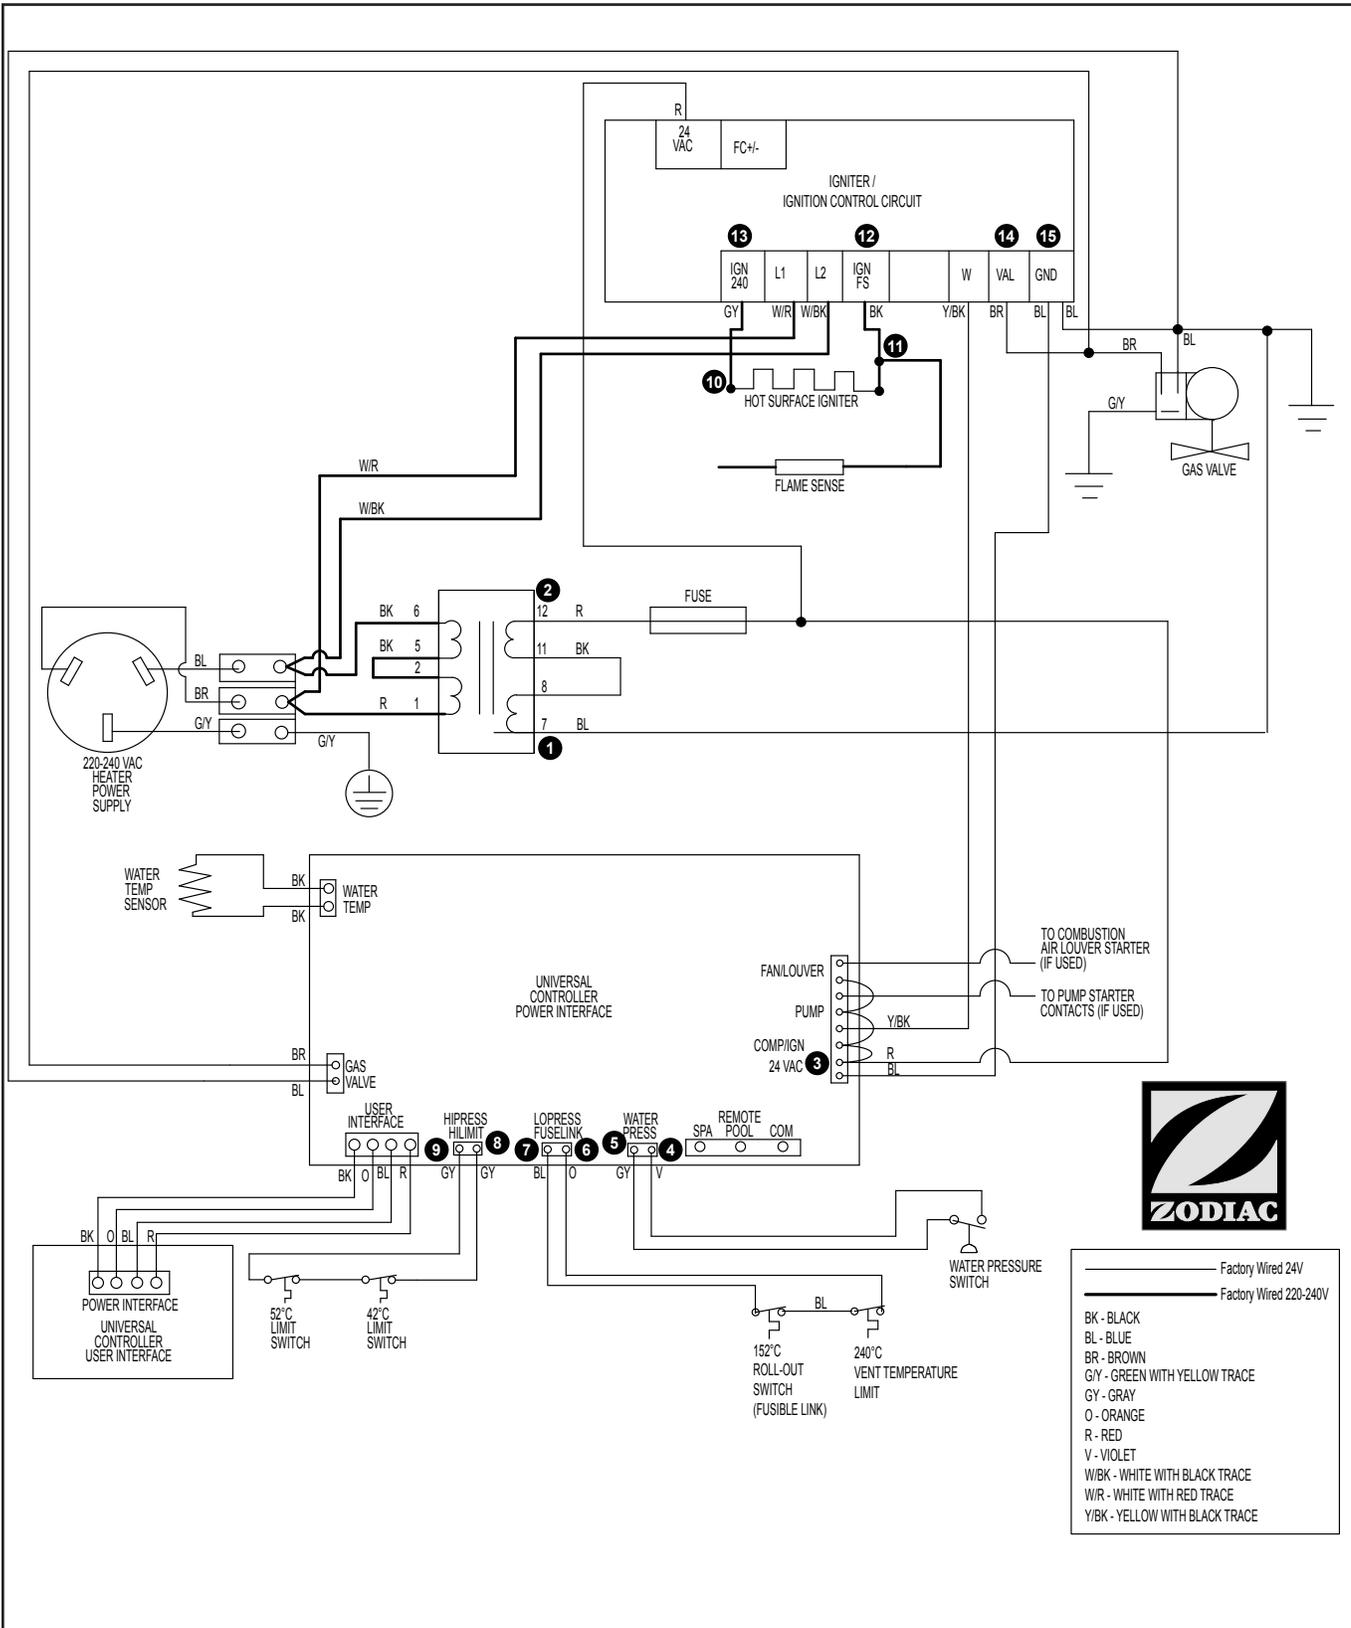

Figure 26. Test Point Identification Diagram
These procedures require a Volt-Ohm meter with a minimum 0-250VAC voltage range, and 1-1000 Ohm resistance range. Figure 26 shows the power
Troubleshooting is done by probing for voltage between the common and various points in the circuit to determine which component is preventing operation. Check points are indicated on Figure 26. The black lead of the meter should be attached to the common tap on the secondary side of the transformer and may be left there throughout most of the procedure.
(common). This is test point 1 on Figure 26. Touch the free red lead of the voltmeter to the terminal on the secondary side of the transformer with a red wire attached to it (24V tap), test point 2. The voltmeter should read between 20-28 Volts AC. If the voltage does not fall within the limits mentioned above, replace the transformer.
Start by checking the voltage at the two (2) legs of this circuit on the controller, see test points 4 and 5 in Figure 26. Check the voltage at test point 4, where the violet wire from the pressure switch enters the two-pin connector on the controller. If there is not 20-28 Volts AC nominal at this point, either the controller or the two-pin wire harness is faulty and must be replaced. If 20-28 Volts AC nominal is detected at test point 4, then move the red lead of the meter to test point 5 where the gray wire from the Pressure Switch enters the two-pin connector. If 20-28 Volts AC nominal is detected at this point, the devices in this circuit are closed and the circuit is working properly.
Since the limit switches are not easily accessible, the voltage can be checked at the two (2) legs of the circuit at the controller. See test points 8 and 9 in Figure 26.